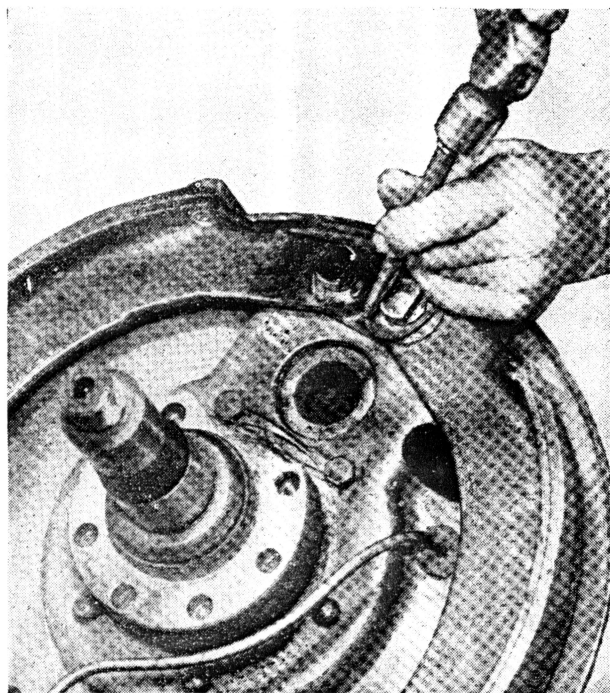

Fig. 19
2. Remove anchor pin "C" washers and guide pin "C" washers. (Refer to Fig. 19.)